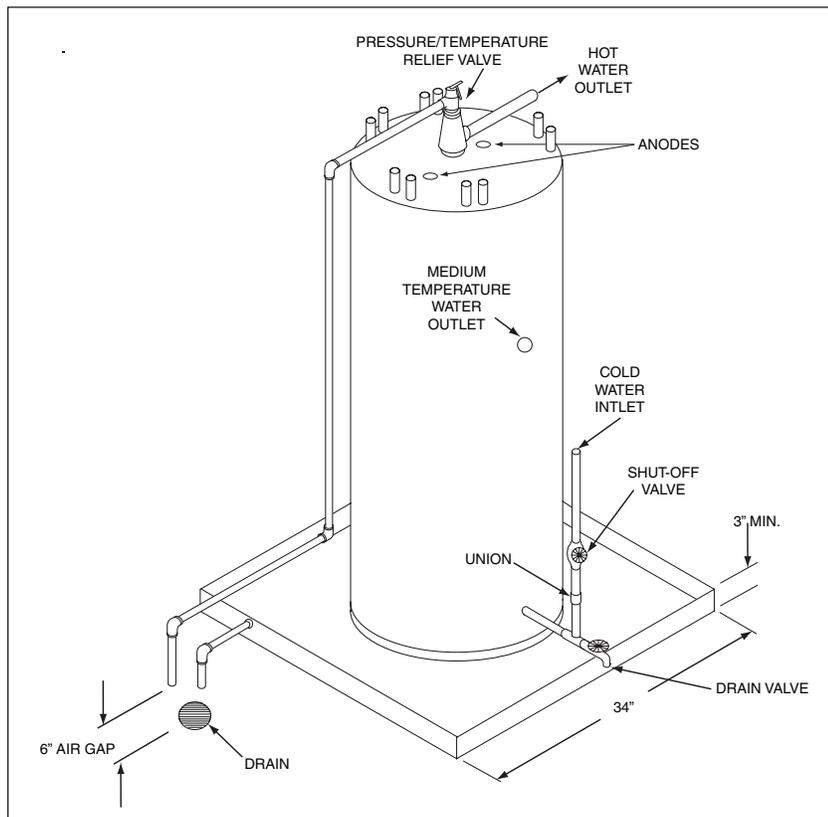

Figure 1: Therma-Stor II-6 plumbing
4. It should be located where water would not damage the surroundings or critical areas of the building if a fitting leaks. If a pitched floor to an open drain is not available, a catch pan should be constructed. See Figure 1.
2. The cold water inlet is located at the bottom of the tank. Provide a union, shut-off valve, and drain valve for this connection. Refer to Figure 1 for typical arrangements.
4. Install an aquastat in the midport (See Figure 1) or on the hot water piping to control the power to the water solenoid.